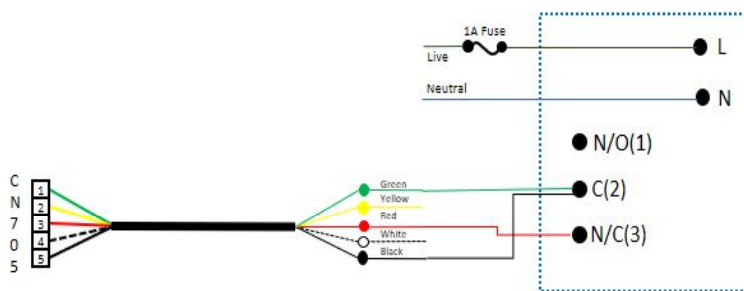

Fig 14
- Connect the “Green - Common and the Black - ON” cable from the interface lead to the “C” common terminal at the CO2 sensor, connect the “Red - Low fan Speed” to the N/C (3) terminal at the CO2 sensor, (fig 14).